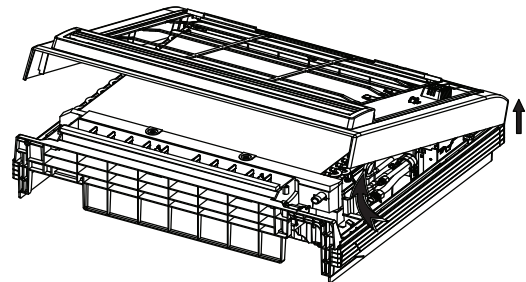

Fig.50-8
- Opening bottom of face plate for a angle that is 30 degrees, then the top of face plate will be take up.(Refer to Fig.50-8)